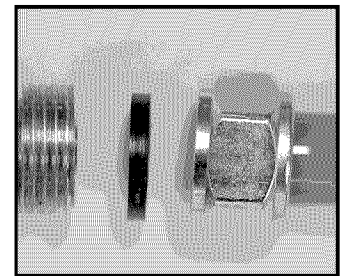

Fig. 09
4. Attach the beverage line coming from the draft tower to the elbow. Use the black washer inside the hex nut and tighten the beverage line securely with a crescent wrench (Fig. 09).